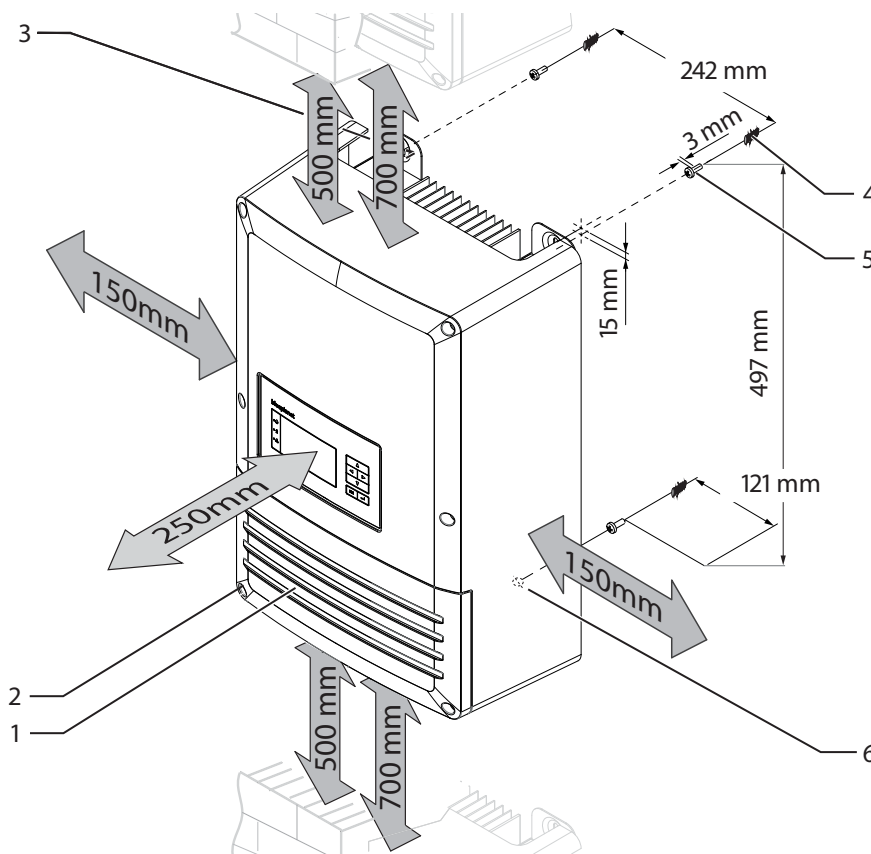

Figure 10: Minimum distances/mounting of inverter
- Minimum clearances to be observed during assembly: see Figure 10 on page 16.